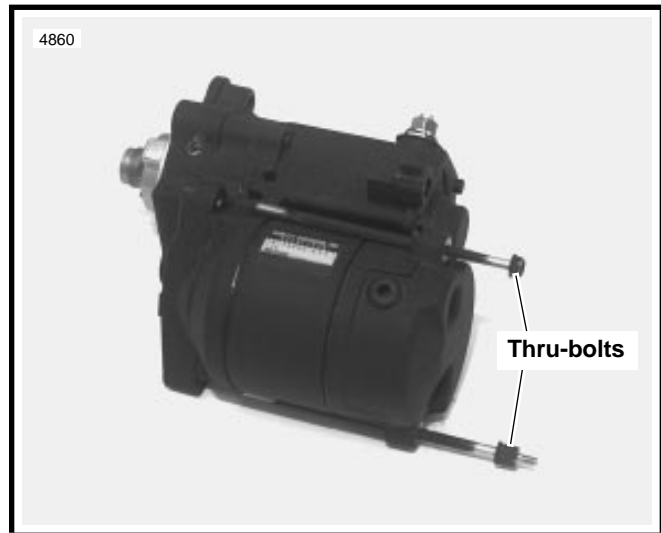

Figure 5-12. Removing the Thru-Bolts
2. See Figure 5-12. Remove thru-bolts.